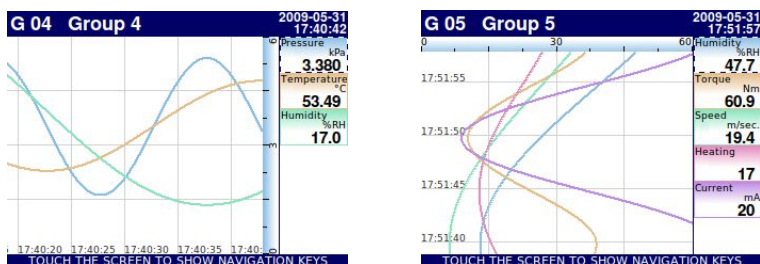

Fig. 6.11. Examples of **Horizontal** (for 3 channels) and **Vertical Charts** (for 5 channels)
During normal operation the **CONTROLLER/DATA RECORDER** displays data in a form selected by user, at any time it is possible to switch a presentation mode and group or show the configuration menu. All the details of the user interface are designed to make the use of the device easy and intuitive. To change a display mode, group or to enter the menu, touch the screen of the **CONTROLLER/DATA RECORDER** and press an appropriate button in the **Navigation bar** (see Fig. 6.11). By touching the screen twice will appear the **Home-Back** menu available only in **SCADALite** display mode (see **Chapter 7.14.4. Groups – SCADALite**).
- as horizontal charts **Fig. 6.11**
- as vertical charts **Fig. 6.11**